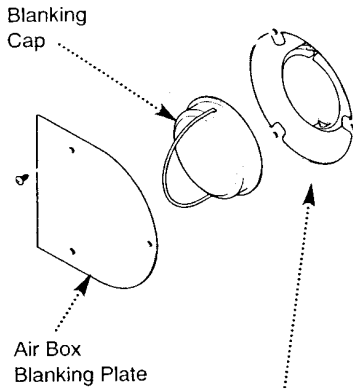

Fig. 27
1. Remove the rear air box blanking plate from the back plate by releasing the three screws (Fig. 27).
2. Remove the blanking cap at the rear of the turret, by pushing and turning anti-clockwise to release the bayonet fitting (Fig. 27).